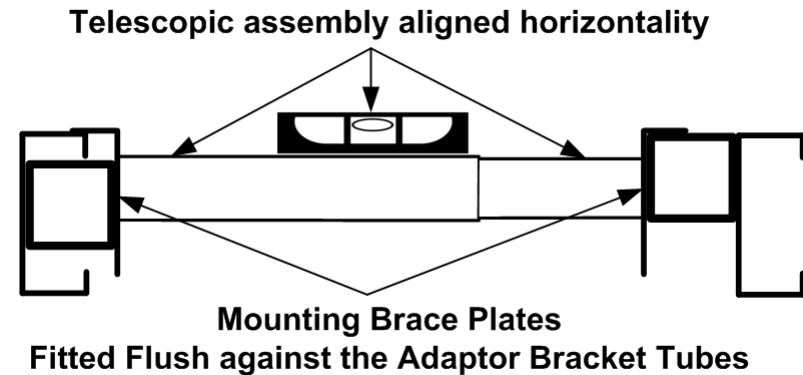

Figure 6
- Before screwing the Brace Bracket Plate in place align the mount telescopic assembly horizontality by using a box level. Refer to Figure 6.